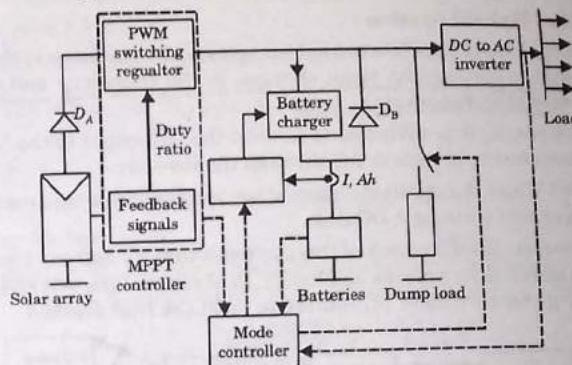

Fig. 1.14.1. A general stand-alone or autonomous solar PV system.
6. The main components of a general stand-alone solar PV system are shown in Fig. 1.14.1.